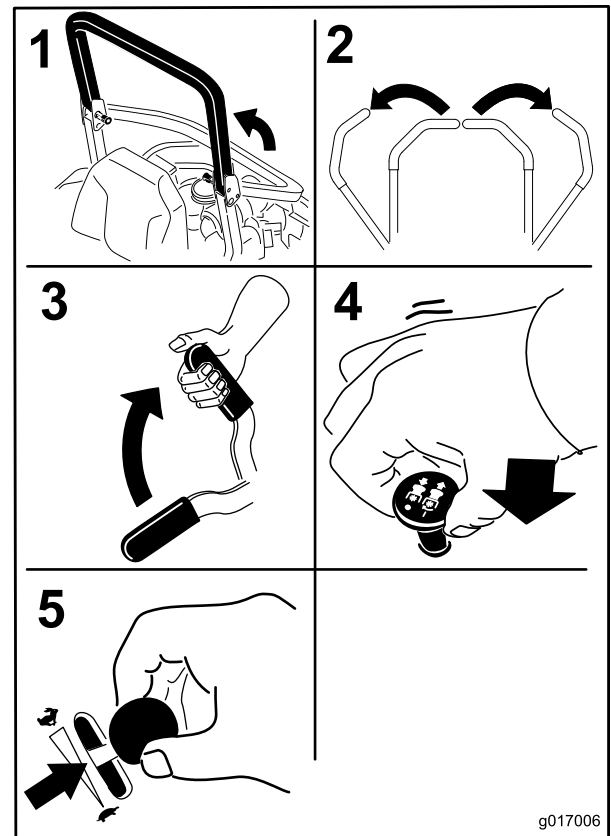

Figure 18
4. Move the blade control switch (PTO) to the Off position (Figure 18).